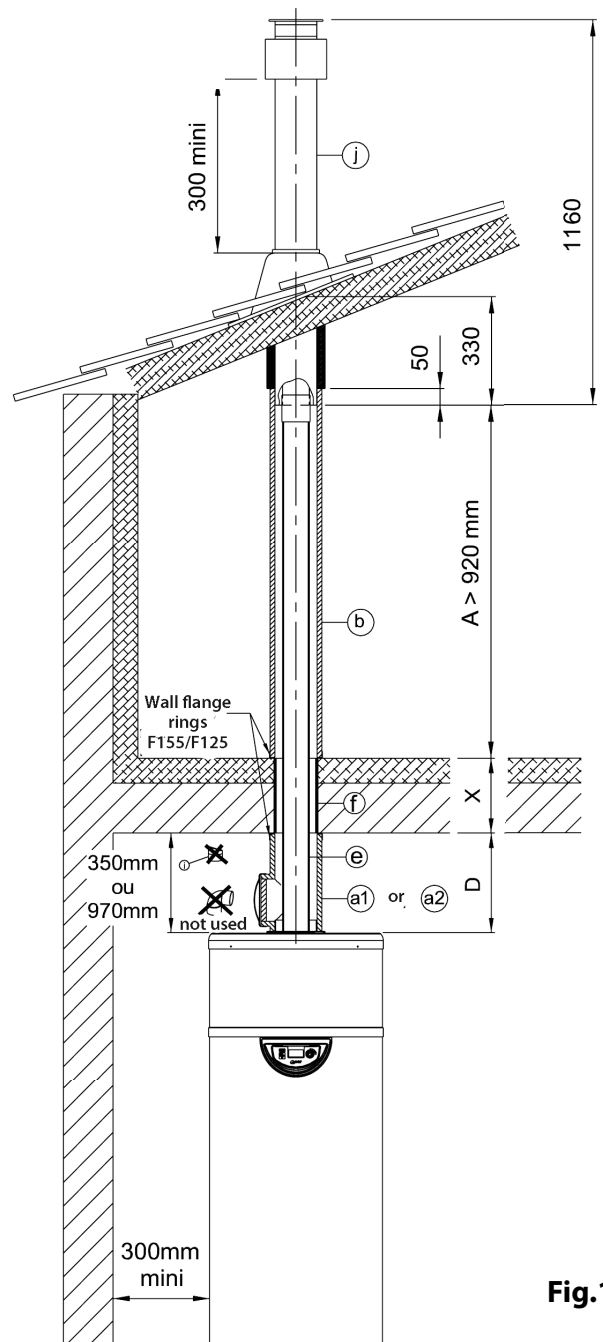
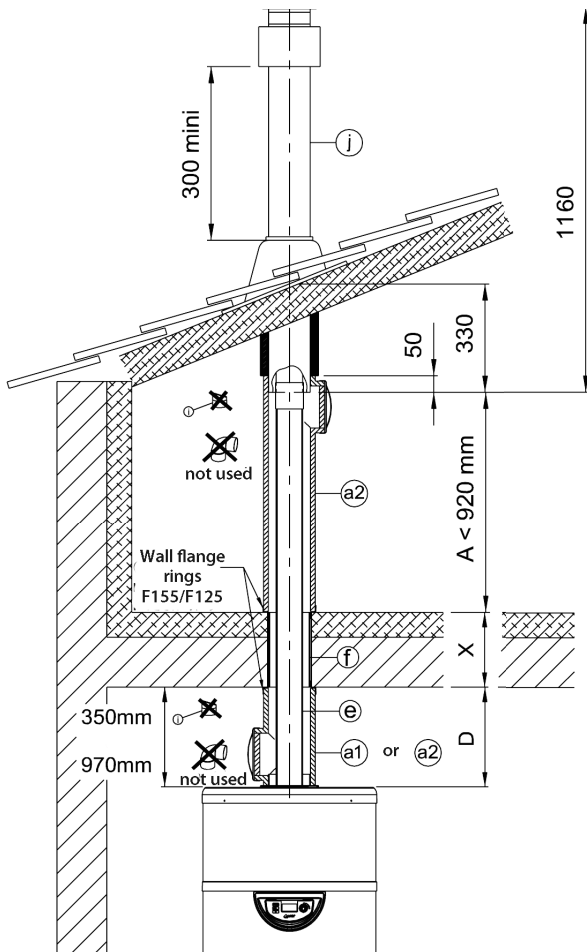

Fig.1
Fig.2
- into the elbow of the insulated air duct (**rep.a2**) **Fig.1**
- into the Ø125mm insulated extension pipe (**rep.b**) **Fig.2**, then into the Ø125 PVC pipe, then into the elbow of the insulated air duct (**rep.a1** or **a2**) (which may be extended [see below, depending on dimensions of «D»]).
- **If the Ø80 PVC pipe is not short enough to pass over the top**, insert it into the elbow of the insulated air duct (**rep.a1** or **a2**) (which may be extended [see below, depending on dimensions of «D»]), then into the Ø125 PVC pipe, and then either into the Ø125 insulated extension pipe (**rep.b**) **Fig.2** or into the elbow of the insulated air duct (**rep.a2**) **Fig.1**.
- Slot the Ø80 PVC pipe onto the lower part of the F/F Ø80 vertical terminal (as the case may be, by removing the stopper and cover on the insulated air duct) (**rep.a2**) **Fig.1**. Slide the elbow of the insulated air duct (**rep.a2**) **Fig.1** or the 50mm insulated extension pipe Ø125 (**rep.b**) **Fig.2** onto the Ø80/125 vertical terminal by gently squeezing it vertically.
- Either slot the insulated air duct (**rep.a2**) **Fig.1** or the Ø125 insulated extension pipe (**rep.b**) **Fig.2** into the F155/F125 upper flange ring.